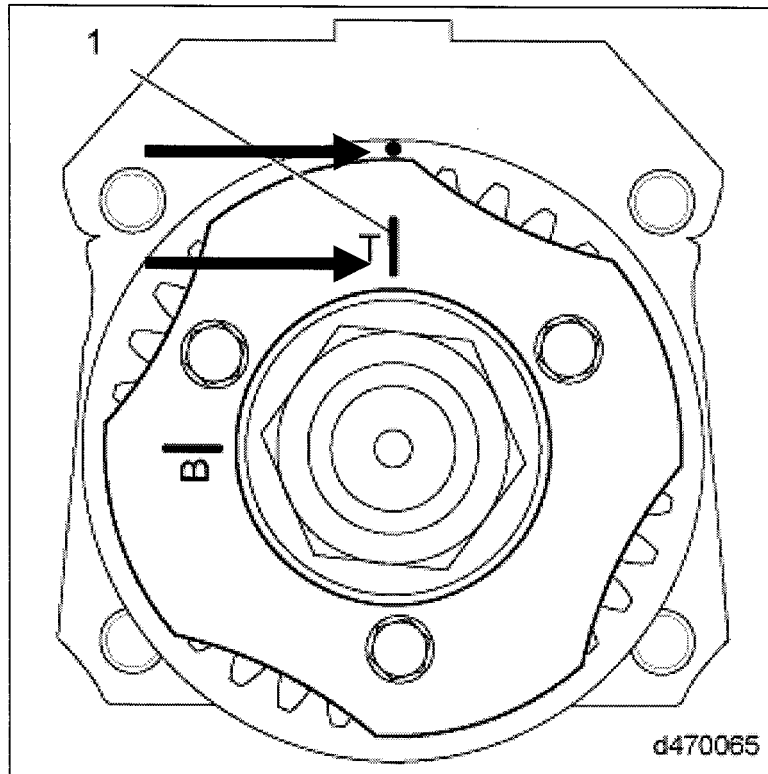

Figure 4 – High Pressure Fuel Pump Timing Plate
8. Ensure that the "T" on the timing plate is pointed at the 12 o'clock position. If it is not, use a non-marring strap wrench or tool J-48669 to rotate the pump gear until the "T" is aimed at the 12 o'clock position. See Figure 4.
23. When the second pumping element has been completed, rotate the gear clockwise to align the "T" on the timing plate to the dot on the housing. See Figure 4.